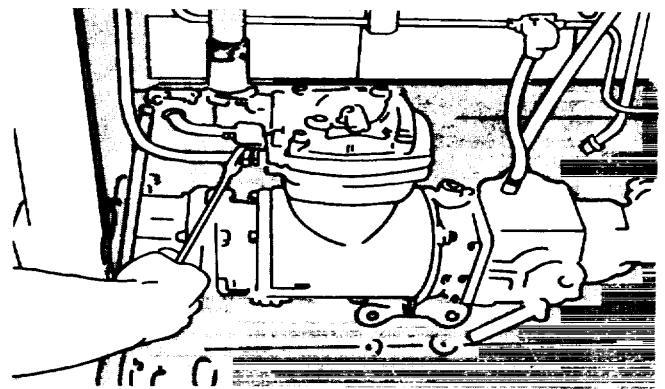

Figure 16N-82. Install the Air Compressor Piping
- Install the water inlet and outlet tubes from the air compressor to the thermostat housing and block. Install the air supply connection to the supply tube (installed in intake manifold). Secure them with hose clamps and capscrews, Figure 16N-82.